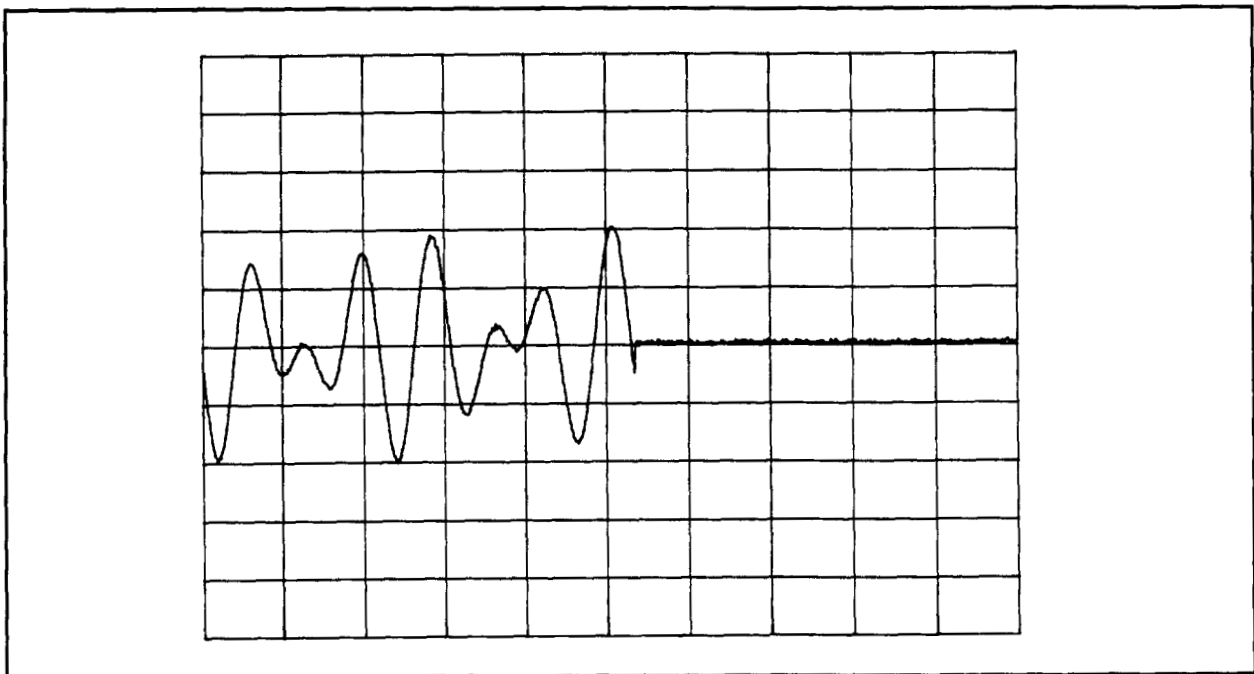

Figure 4-10. DTMF Burst Waveform with Slight Negative Slewing
- Adjust the oscilloscope's vertical gain and sweep speed to view the 1 kHz output burst from the Multifunction Synthesizer. The waveform should appear similar to the one shown in Figure 4-10.